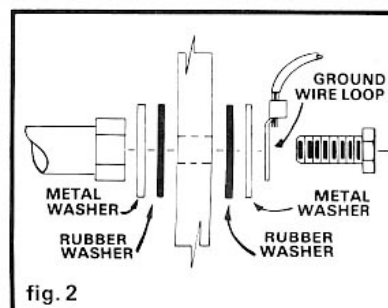

fig. 2
4. Turnsignal Installation - see figure 2.